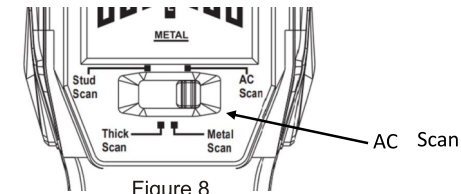

Figure 8
- 1) Select detecting mode, move the switch to AC Scan (Figure 8)